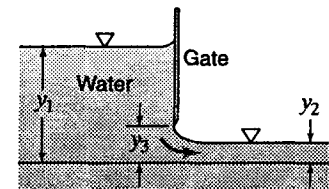

Figure X6.4.2
6.4.2 Find the horizontal thrust of the water on each meter of width of the sluice gate shown in Fig. X6.4.2, given  $y_1 = 2.2 \text{ m}$ ,  $y_2 = 0.4 \text{ m}$ , and  $y_3 = 0.5 \text{ m}$ . Neglect friction.